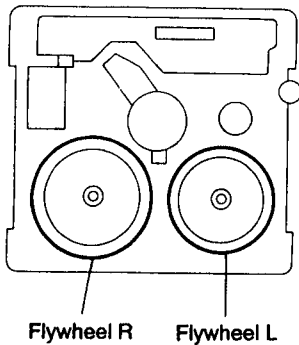

Fig.5-32
■ **Removing the Flywheel** (See Figs. 5-32,5-33)
3. After turning over the cassette mechanism, remove the slit washers ① and ② fixing the capstan shafts R and L, and pull out the flywheels R and L respectively from behind the cassette mechanism.